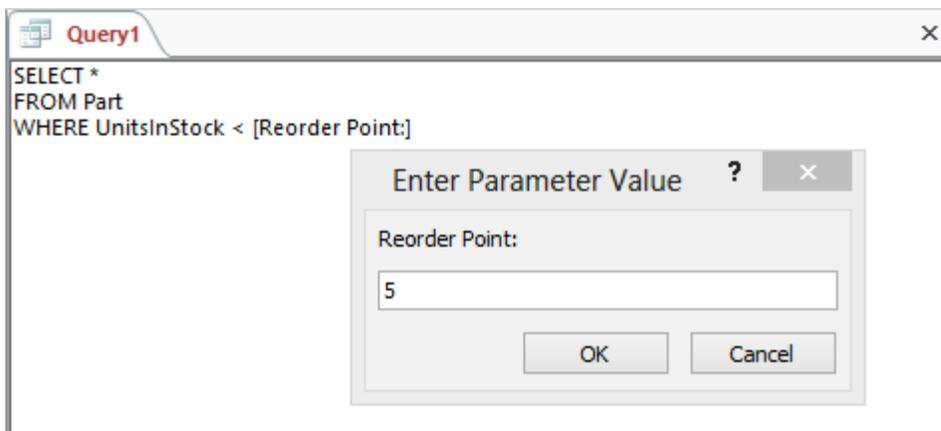

Figure 36: Parameter Value Dialog
4. Execute the Query: When you execute the query, the dialog box in Figure 36 appears. Type in a number (5 is typed in Figure 36) and click **OK**. The datasheet displays the result as shown in Figure 37.